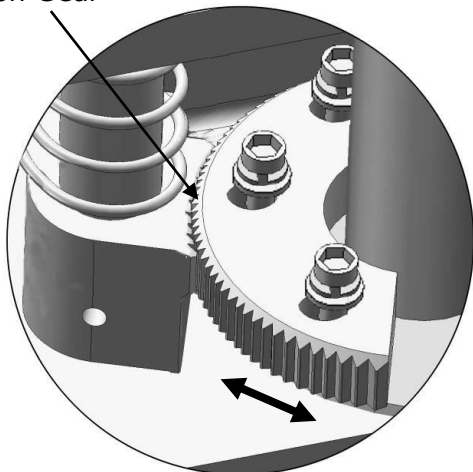

Fig. 32
3. Adjust moon gear as direction of arrow (**See Fig.32**).